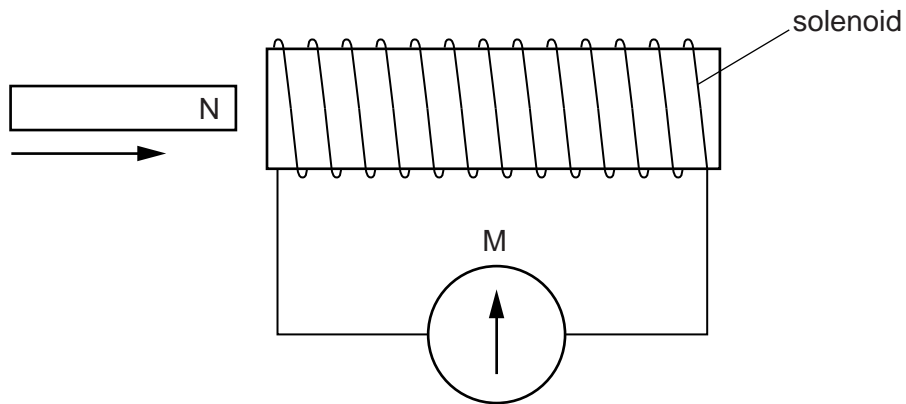

Fig. 11.1
- (b) Fig. 11.1 shows a solenoid connected to a centre-zero voltmeter, M.